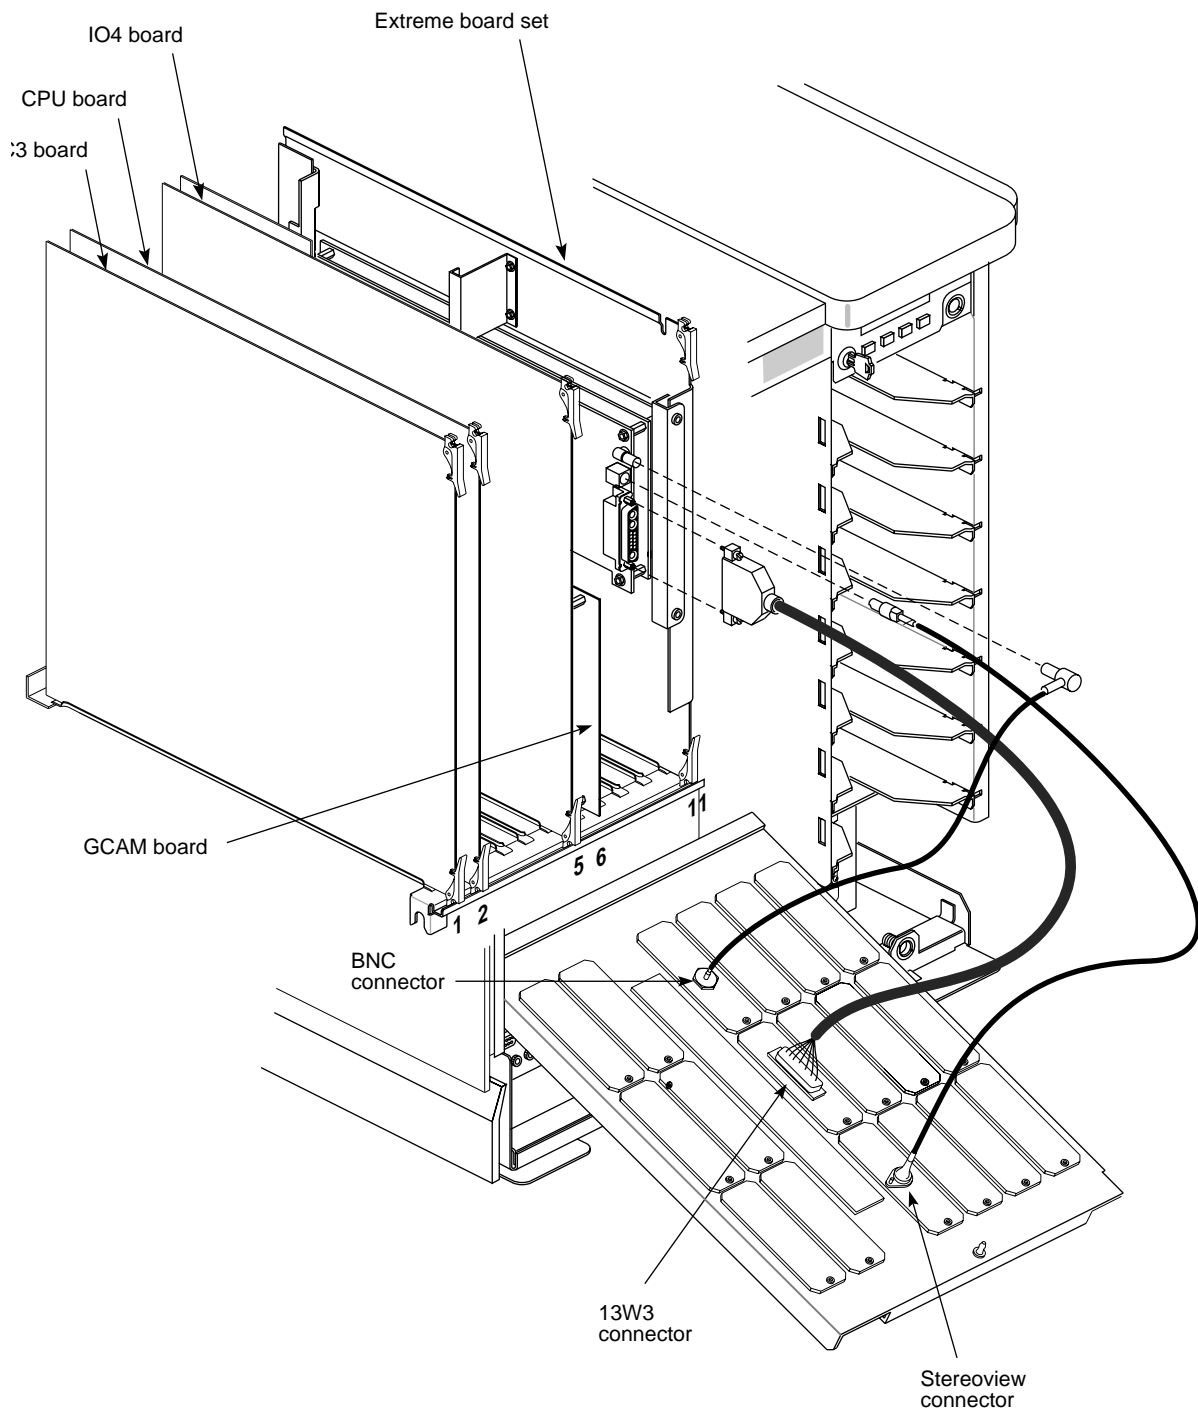

Figure 2-2 Extreme Installed in POWER Challenge L
5. Ensure that the GCAM plugs into slot 6 in place of the VCAM (see Figure 2-2).
8. Install the Extreme graphics board set in the last VME slot (11). Ensure that the board's backplane connectors seat properly in the system's backplane and that the ejector tabs have engaged the top and bottom card guides.